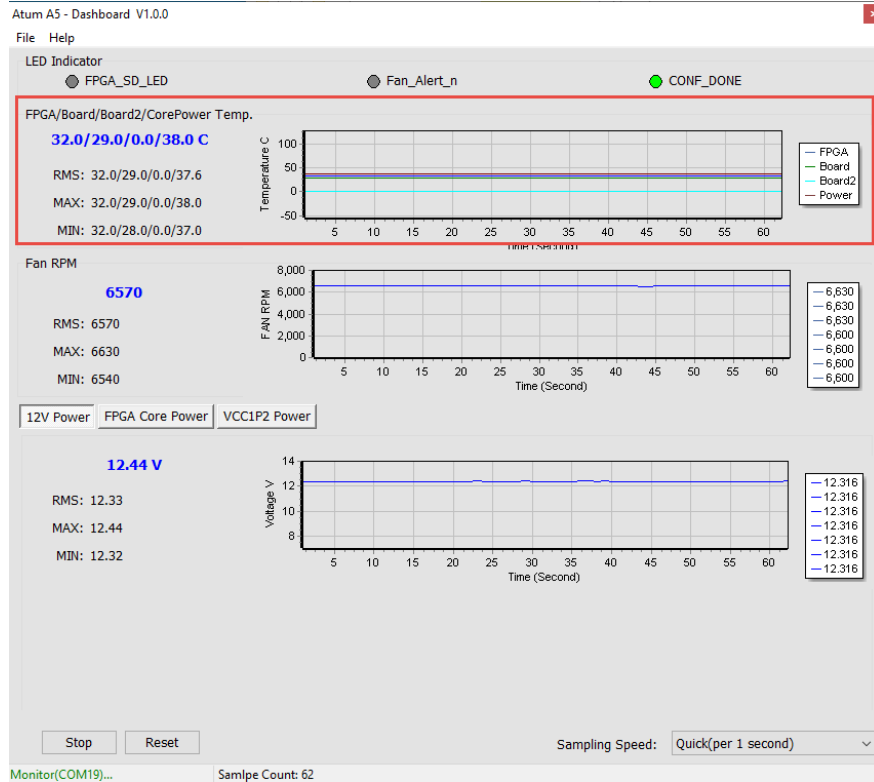
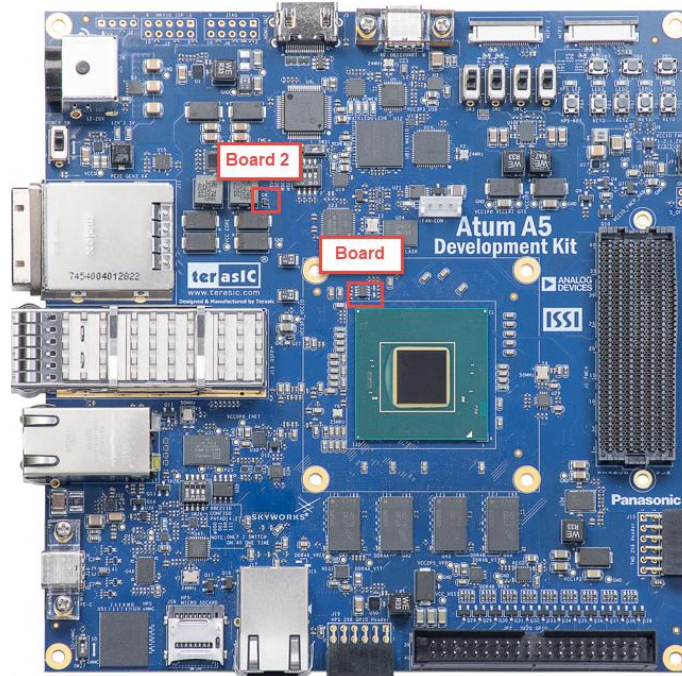

Figure 3-9 Temperature section
Figure 3-10 Location of the board's ambient temperature
- **FPGA/Board/Board2/CorePower Temp.:** The Dashboard GUI will real-time show the fan speed, Atum A5 board ambient and FPGA temperature. Users can know the board temperature in time. The information will be refreshed per 1 second, and displays through diagram and number, as shown in **Figure 3-9**. **Figure 3-10** shows the location of the two temperature sensors of **Board** and **Board2** on the GUI.